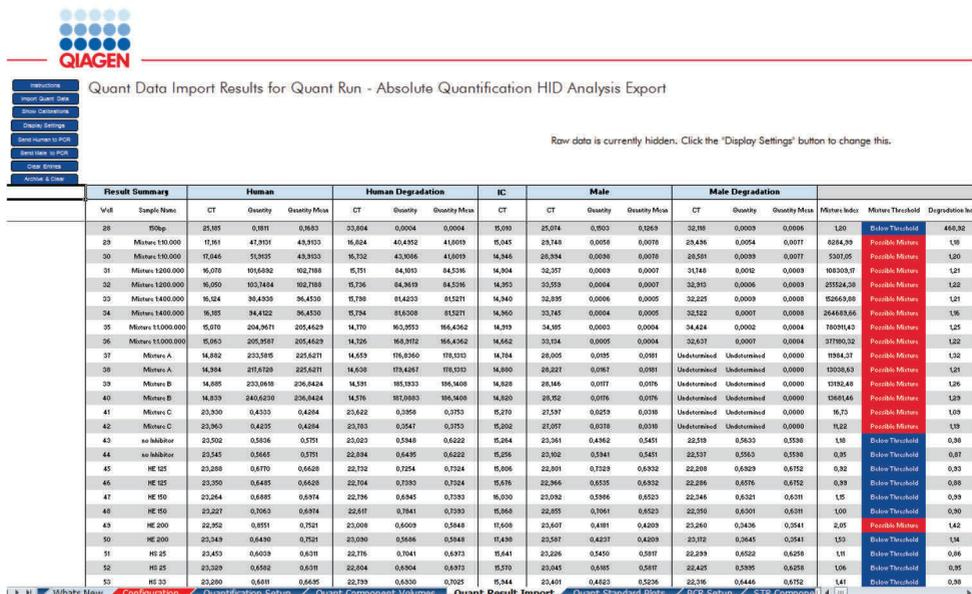

Figure 42. “Quant Result Import” worksheet: data analyzed.
9. Your quantification data are now imported and the data is analyzed. The Mixture Index, Degradation Indices and Inhibition Index are calculated and tagged as “Below Threshold”, “Possible Mixture”, “Possible Degradation” or “Possible Inhibition” (Figure 42).